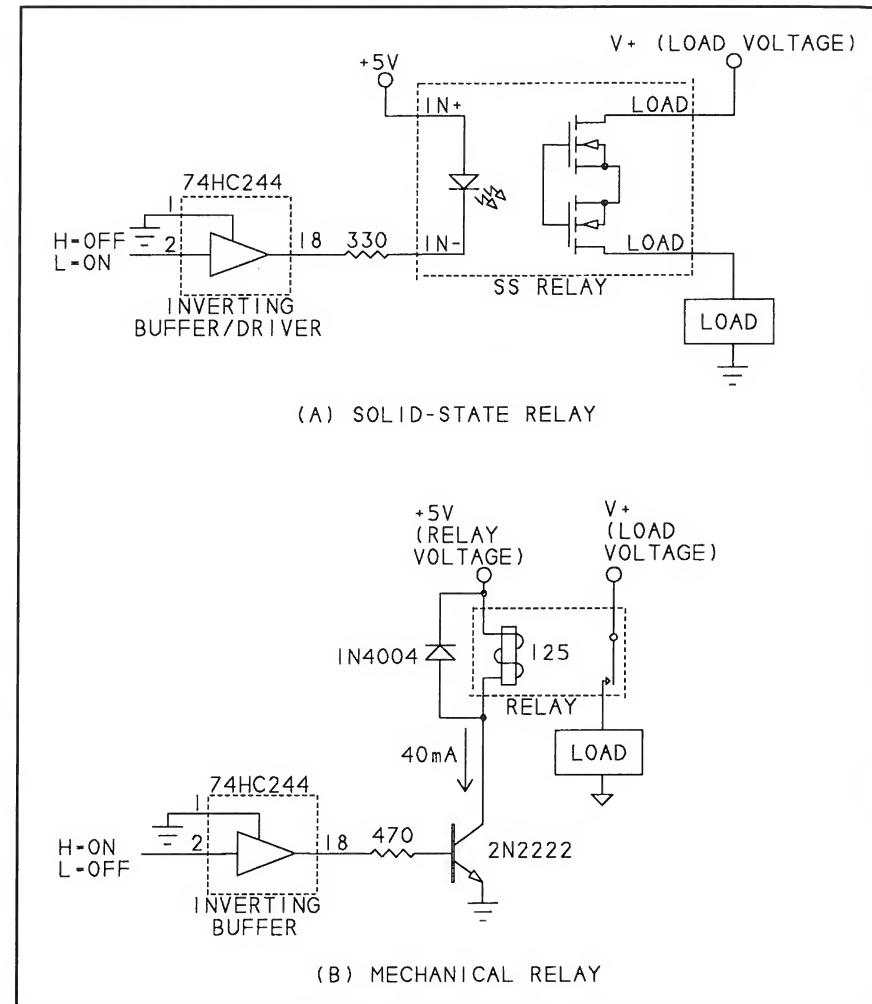

Fig. 5. Solid-state and electromechanical relays are two more options for power switching.
Another way to switch power to a load is via a solid-state relay, which offers an easy-to-use optically-isolated switch in a single package. Shown in Fig. 5(A) is an example.
lays have been around longer than transistors and still have their uses. An electromechanical relay contains a coil and one or more sets of contacts attached to an armature, as shown in Fig. 5(B). Applying a voltage to the coil causes current to flow through it. The current generates magnetic fields that move the armature to open or close the relay contacts. Removing the coil voltage collapses the magnetic fields and returns the armature and contacts to their original positions.